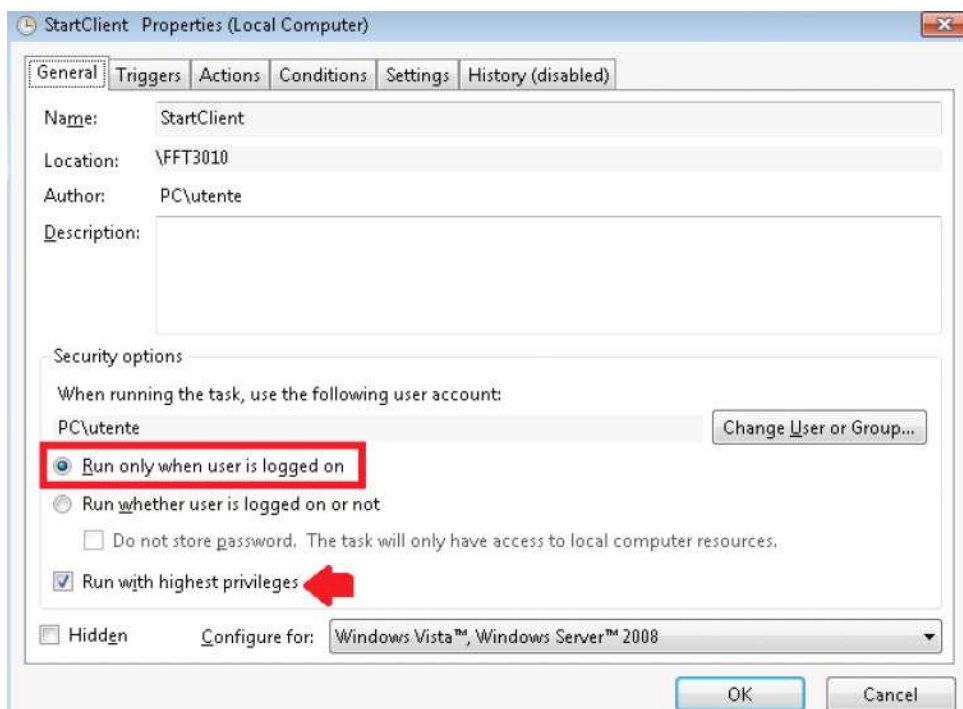

Fig. C.43: General tab
STEP 10 – The new *StartClient* basic task is right now created and the *StartClient Properties* dialog box is open. Please select *General* tab and verify that *Run only when user is logged on* option is selected and then Select *Run with highest privileges* (Fig. C.43).